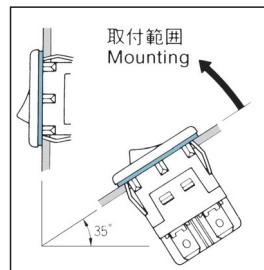

Fig.1.
- When the switch is used in a place where it may be exposed to water splash, mount the switch at a tilt of at least 35 degrees from the horizontal surface. (See Fig. 1.)